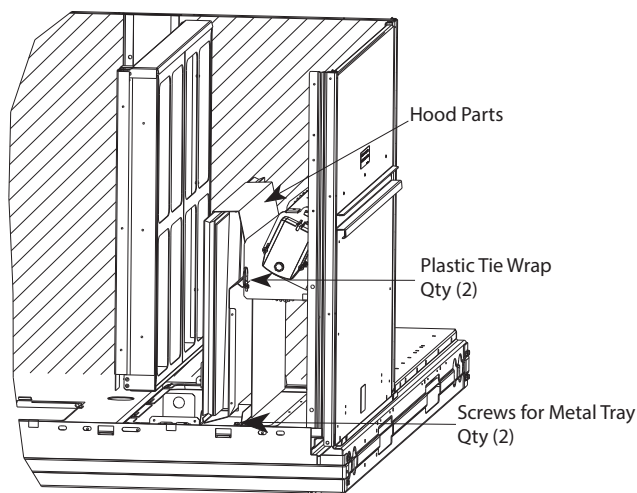

Fig. 15 — Economizer and Two Position Damper Hood Package Location (Two Position Damper Only for Size 180)
3. Locate the (2) screws holding the metal tray to the basepan and remove. Locate and cut the (2) plastic tie-wraps securing the assembly to the damper (see Fig. 15). Be careful to not damage any wiring or cut tie-wraps securing any wiring. The indoor coil access panel will be used as the top of the damper hood. Remove the screws along the sides and bottom of the indoor coil access panel.